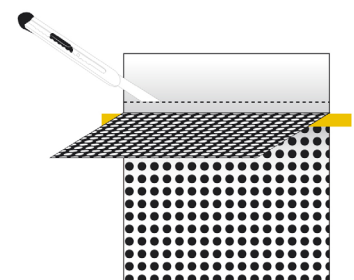

Figure 03
- › Remove the liner protecting the top if it has already been cut with the SHAGCUT. Otherwise, peel off the liner on the upper part of the film until the hinge, then cut it without touching the MICROCGUV film. (FIG. 03)